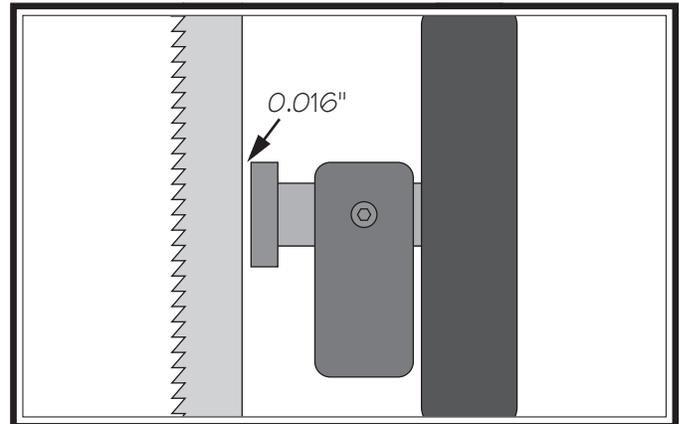

Figure 36. Bearing positioned approximately 0.016" away from back of blade.
3. Position support bearing approximately 0.016" away from back of blade, as illustrated in Figure 36.